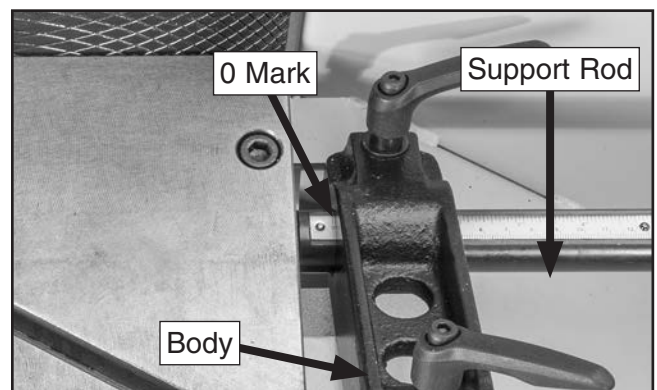

Figure 54. Work stop bracket adjusted to 0 mark.
5. Slide work stop bracket onto support rod, aligning body with "0" mark on rod scale (see **Figure 54**).